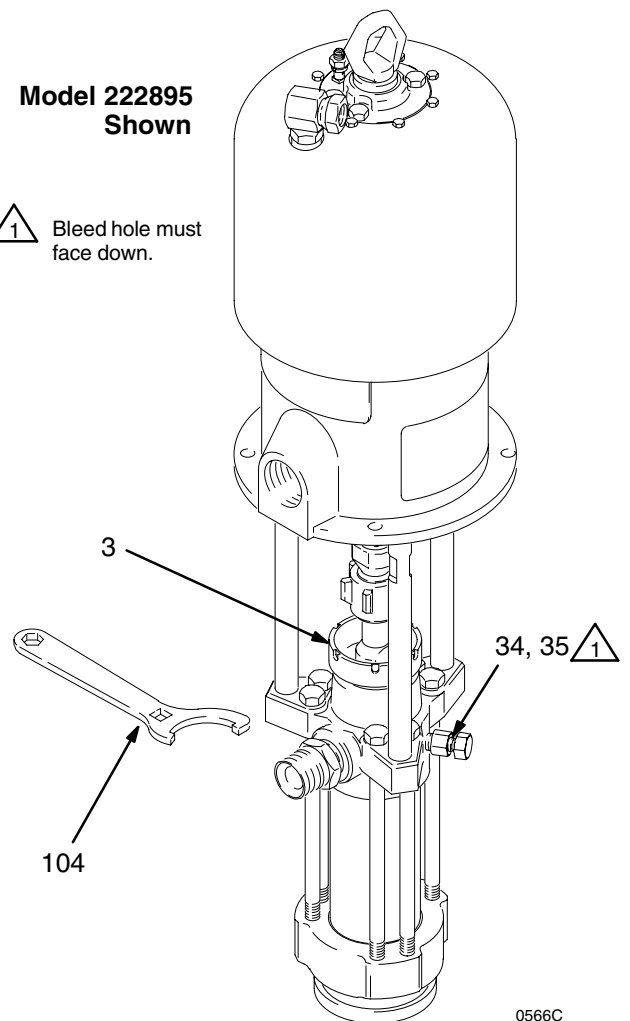

Fig. 5
Fill the packing nut/wet-cup (3) 1/3 full with Graco Throat Seal Liquid (TSL) or compatible solvent. See Fig. 5. Using the supplied wrench (104), adjust the packing nut weekly so it is just snug; do not overtighten. Follow the **Pressure Relief Procedure Warning** above before adjusting the packing nut.
4. If the pump fails to prime properly, open the bleeder valve (35) slightly. Use the bleed hole on the underside of the valve body (34) as a priming valve until the fluid appears at the hole. See Fig. 5. Close the plug (35).
8. If the pump fails to prime properly, open the bleeder valve (35) slightly. Use the bleed hole, on the underside of the body (34), as a priming valve until the fluid appears at the hole. See Fig. 5. Close the plug (35).